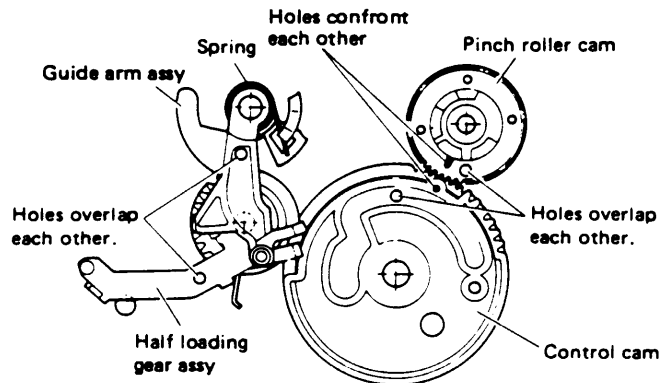

Fig. 1-1-7
1. On the main deck, observe the positional relationships of the parts indicated in Fig. 1-1-7.